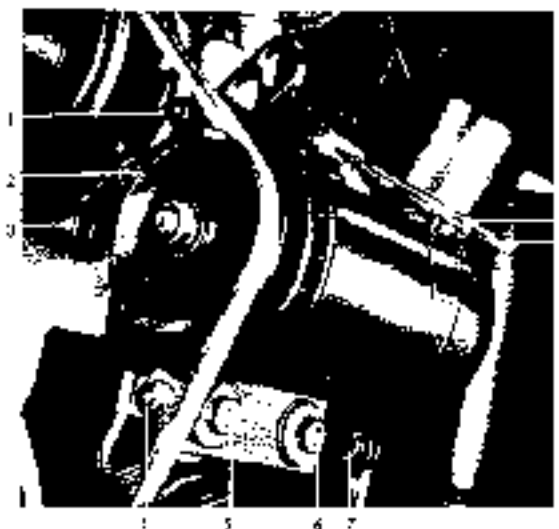

Fig. 50-5/1
2. In order to adjust or re-tension the fan belt slightly slacken the fixing screws (4) and (7) on the generator bracket under the generator, the clamping screw (2) and the hexagon nut (3) (Fig. 50-5/1).
4. Tighten the fixing screws (4) and (7), the hexagon screw (2) and the hexagon nut (3) (Fig. 50-5/1).
and remove the screw. Slacken the fixing screws (4) and (7), the clamping screw (2) and the hexagon nut (3) (see Fig. 50-5/1), so that the generator can be moved toward the engine far enough for the belt to be easily removed and put on.